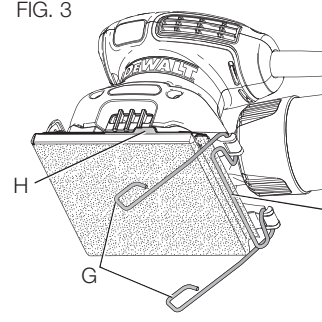

FIG. 4
- Disengage the front paper clamp (B, Fig. 4) by applying and holding pressure on the front clamp button (C) while inserting the 4-1/2" edge of the abrasive paper under the front paper clamp (B) until it hits the paper-limiting ribs (E). Release the front paper clamp to secure the front of the paper.